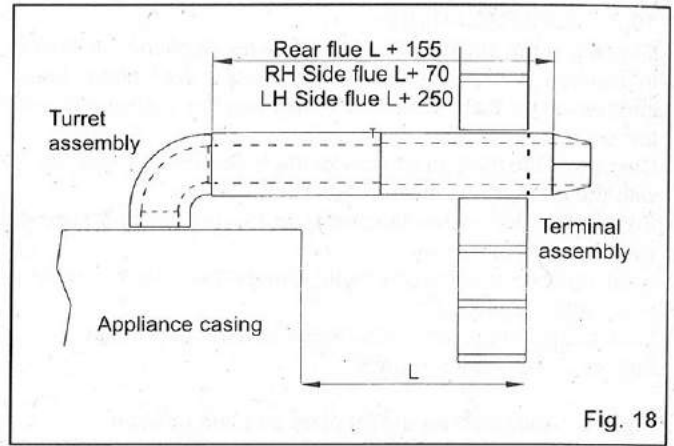
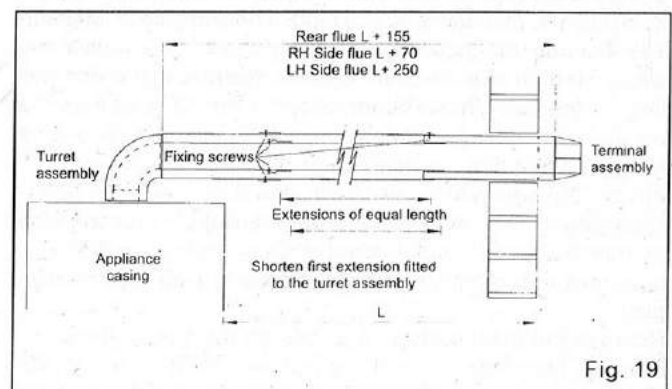

Fig. 18
Fig. 19
2) If L is within the range 127 mm to 500 mm then the flue can be telescopically adjusted to the correct length ($L + 70$ mm for RH side flue, $L + 250$ mm for LH side flue or $L + 155$ mm for rear flue). The ducts are then fixed by drilling a pilot hole through the hole in the air duct and screwing the self tapping screw provided into the two ducts (see fig. 18).
Each extension duct must be connected to the first section of flue or the previous extension duct by firstly fitting the inner flue ducts together and pilot drilling and fixing (see fig. 19). Then the outer air ducts can be similarly fixed using the pair of screws provided. The flue terminal section can then be telescopically adjusted and fixed as before (see fig. 18) ensuring the correct length ($L + 70$ mm for RH side flues, $L + 250$ mm for LH side flues, or $L + 155$ mm for rear flues)
4) In the even of L not falling within any of the above ranges it will be necessary to cut the FIRST extension length. The air and flue duct lengths should both be reduced to the same length, $L - 240$ mm where one extension is used; $L - 990$ mm with two extensions and $L - 1,740$ mm with three (see fig. 19). The flue can then be assembled ensuring that the cut extension is fitted to the turret duct assembly first and that the flue is adjusted to the correct length of ($L + 70$ mm for RH side flues, $L + 250$ mm for LH side flues, or $L + 155$ mm for rear flues) (see fig 18).